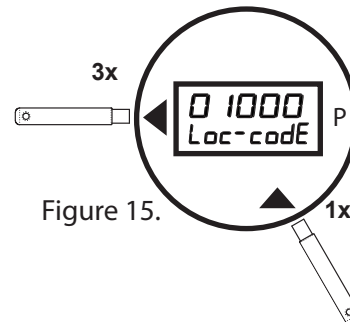

Figure 15.
- Pass the wand on the ◀ three times. The second digit from the left will flash (Figure 15).
- Pass the wand on the ▲ once. The display will increment from 0 to 1 (Figure 15).